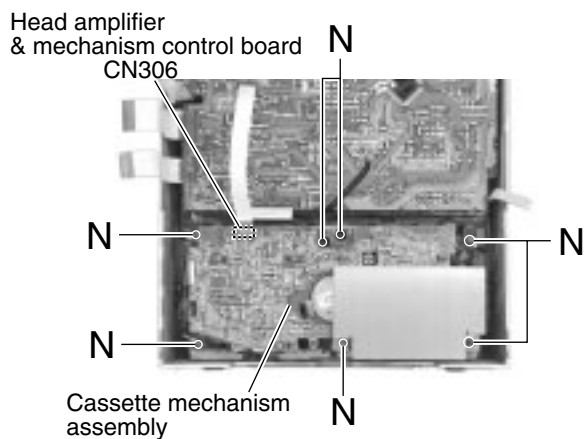

Fig.31
■ Removing the cassette mechanism assembly (See Fig.31)